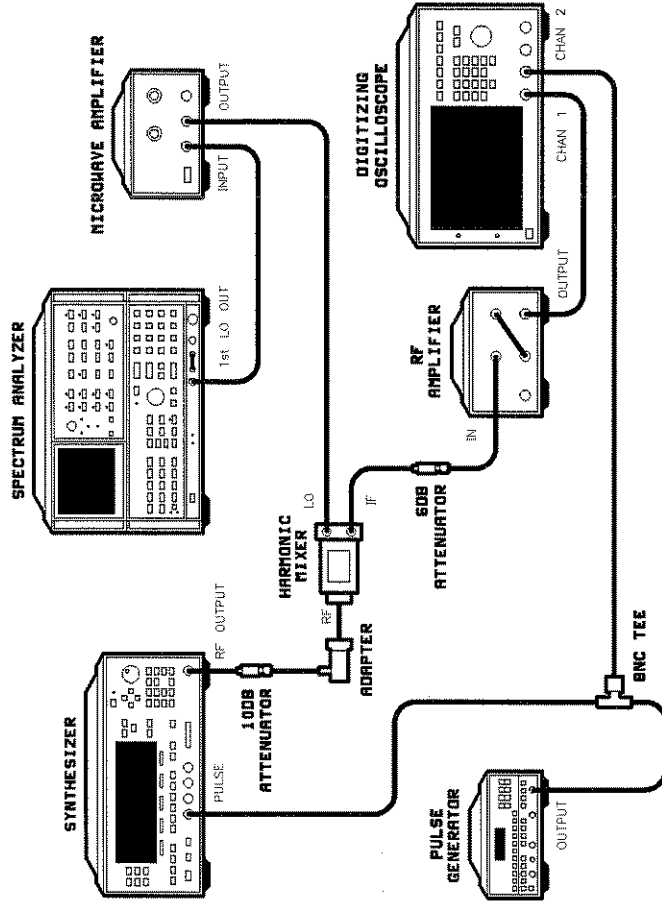

Figure 2-20. Pulse Performance Test Setup > 20 GHz
25. Connect the equipment as shown in Figure 2-20 using the HP 11970K Mixer.